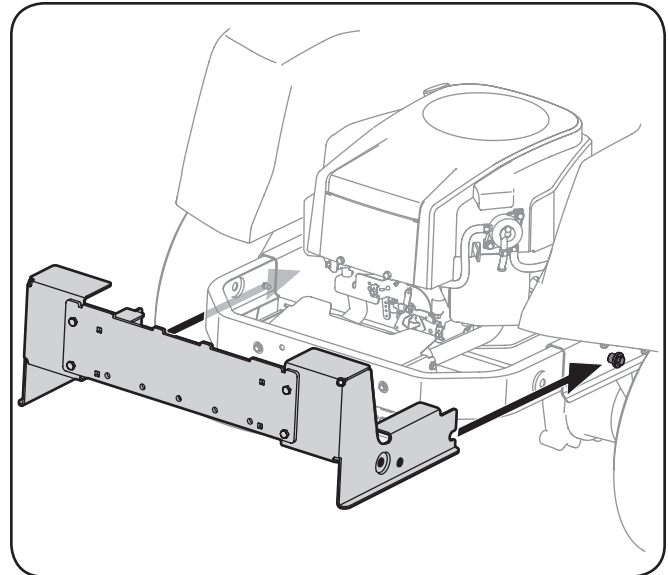

Figure 5-2
1. Slide the mounting bracket assembly along the frame rails of the tractor until the hooks in the mounting brackets align under the shoulder bolts on your tractor, as seen in Figure 5-2.